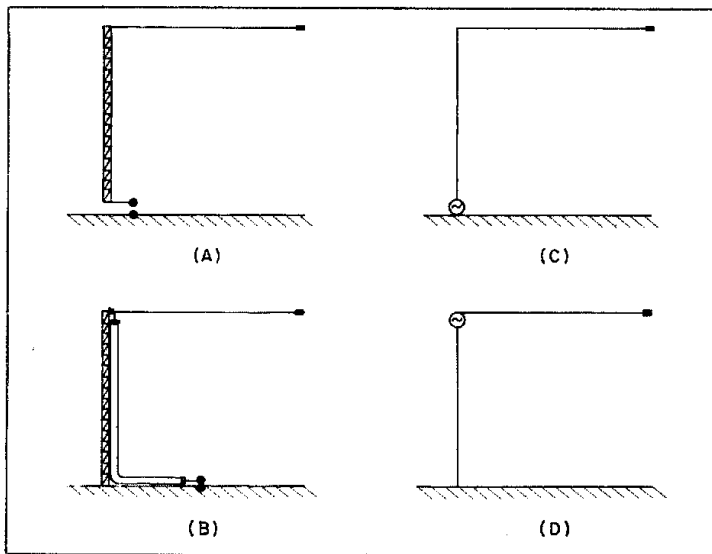

Fig. 5 — Actual and equivalent circuits for base-fed (A and C) and elevated feed (B and D) L-type antennas.
This interpretation is made clear in Fig. 5, where we show actual and equivalent circuits for (A) a conventional insulated-base, base-fed antenna and (B) an antenna, like the half sloper, with elevated feed (fed with coaxial cable at the top of the